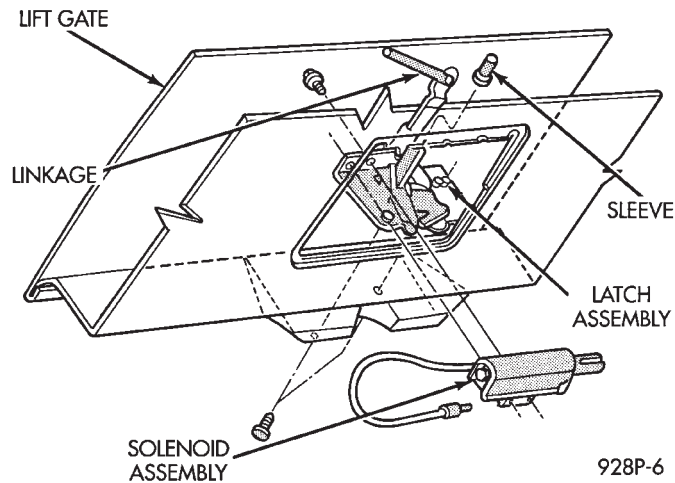

Fig. 4 Lift Gate Release Assembly
(1) Confirm solenoid lead wire is connected and 10 volts or more are available at solenoid (Fig. 4).